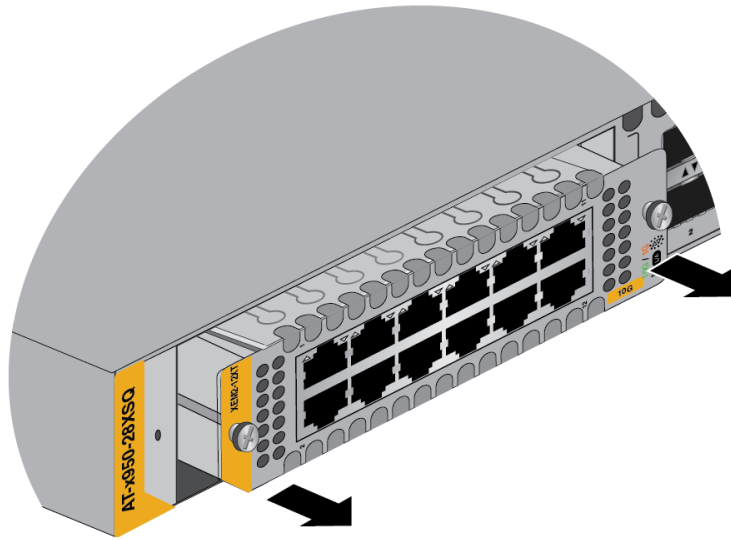

Figure 124. Disconnecting an Ethernet Line Card from the Switch
5. Carefully pull on the screws on the faceplate to disconnect the line card from the internal connector in the switch. Refer to Figure 124 on page 186.